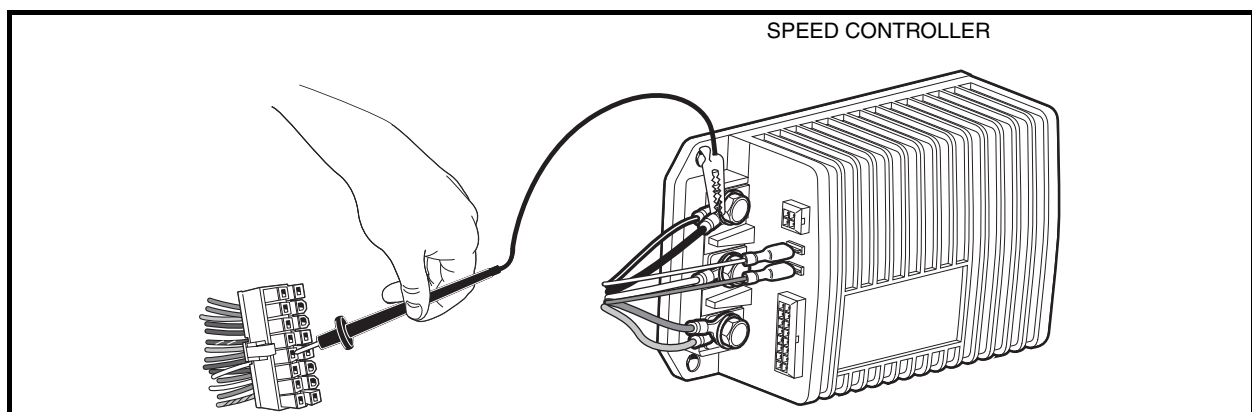

Figure 11-22 Pin 12 Test
4. Place a jumper wire with an alligator clip between the B– terminal of the speed controller (use alligator clip for this connection) and pin 12 (blue/white wire) of the 16-pin connector (**Figure 11-22, Page 11-34**). **See following CAUTION.**